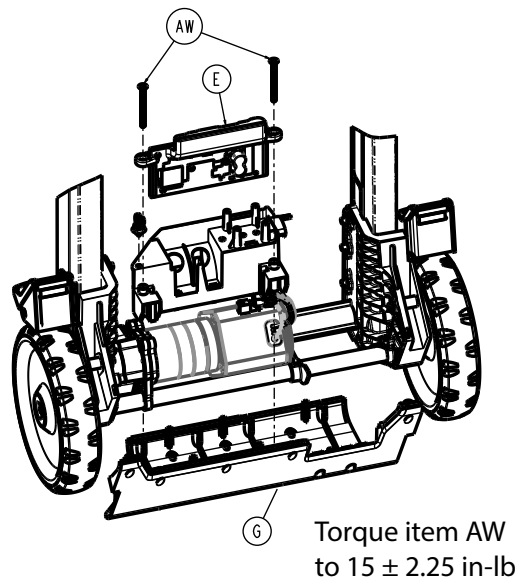

Figure 7 –
3. Using a 1/8" hex wrench, remove the two flat countersunk head cap screws (AW) that secure the power box PCBA (E) to the power box lower cover (G) (Figure 7). Discard the power box lower cover. Save the screws.
**Note** - Using a torque wrench, torque the flat countersunk head cap screws (AW) to  $15 \pm 2.25$  in-lb when you reinstall.